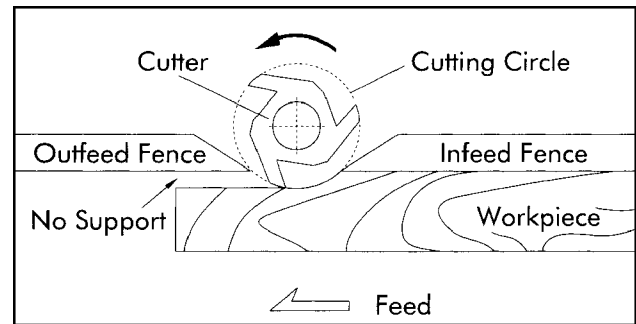
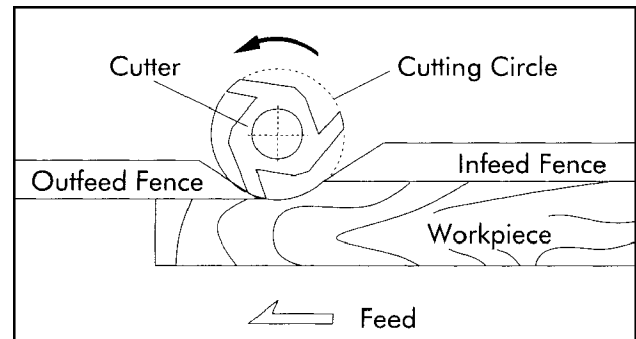

Figure 18
Figure 19
2. When the shaping operation removes the entire edge of the stock, e.g. in jointing or making a full bead, the shaped edge will not be supported by the outfeed fence when both fences are in line, as shown in Figure 18. In this case, the stock should be advanced to the position shown in Figure 18 and stopped. The outfeed fence should then be moved forward to contact the work, as shown in Figure 19. The outfeed fence will then be in line with the cutting circle, and the operation can continue.